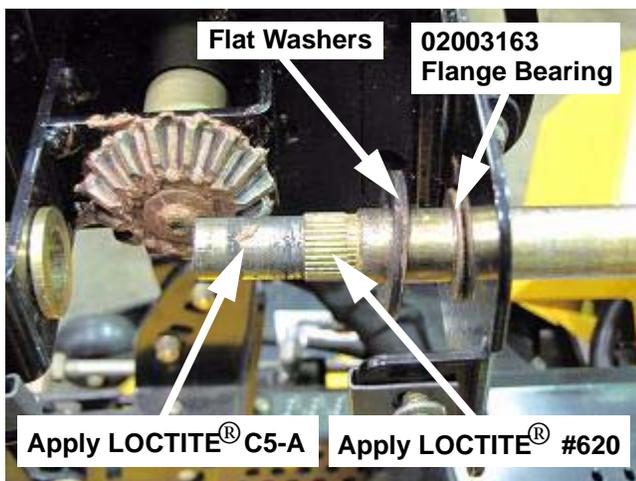

FIGURE 9
13. Install the steering shaft with steering wheel attached, through the 02003163 flange bearing. Install the two (2) flat washers onto the steering shaft. See Figure 9.
14. Apply a small amount of LOCTITE® C5-A (copper) anti-sieze compound to the steering shaft surface called out in Figure 9.
15. Apply a small amount of LOCTITE® #620 retaining compound to the splines of the steering shaft as called out in Figure 9.